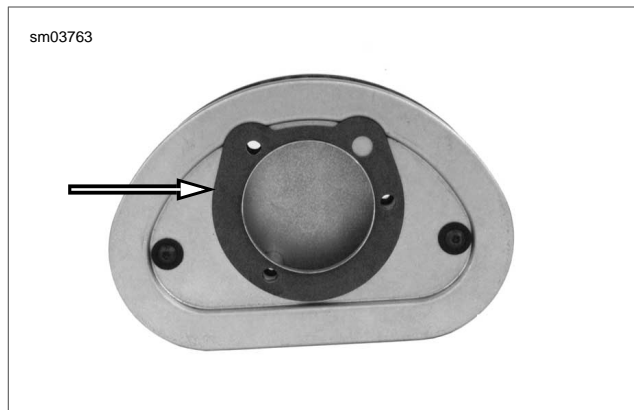

Figure 1-11. Element Gasket
1. See Figure 1-11. Position **new** gasket on filter element. Make sure gasket holes are aligned with screw holes.